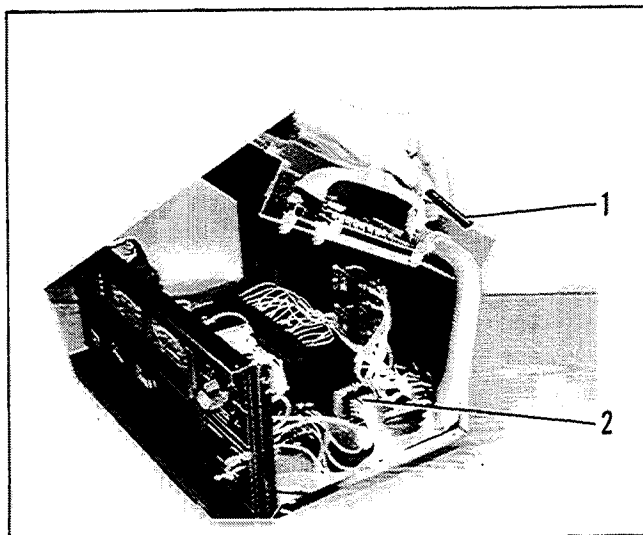

Figure 3-12. Continuity Check Points
- A. With an ohmmeter, check the speed sensor circuits for continuity: (See Figure 3-12):